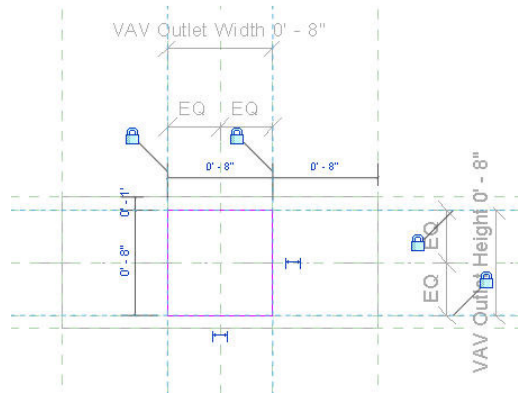

Figure 30. The finished VAV Outlet sketch.
9. As you did with the VAV Box body use the **Rectangle** tool from the ribbon to create the sketch geometry, locking all four sides to their respective Reference Planes, as shown in Figure 30.